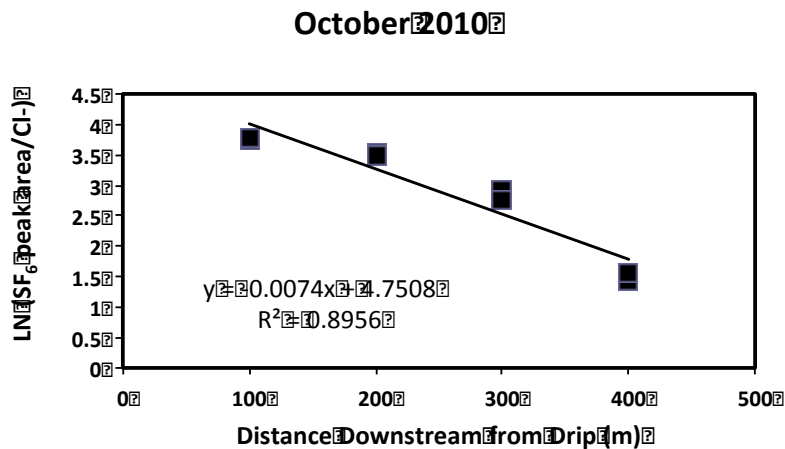

Figure 13. Example SF6 loss rate data calculation.
- a. Plot the natural log (LN) of the RATIO of the tracer gas concentration (or GC peak area) to the background-corrected Cl^- concentration (Y-axis) by Stream Distance (X-axis) (Figure 13).